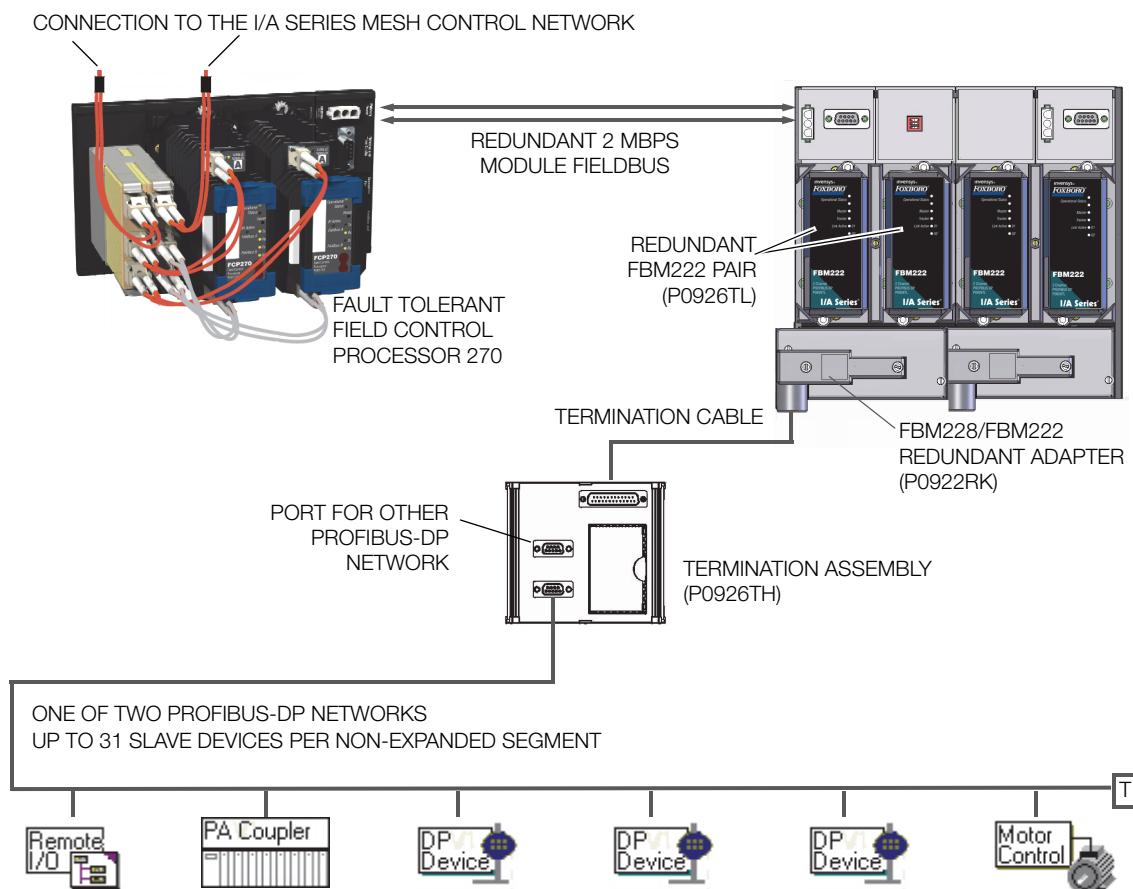
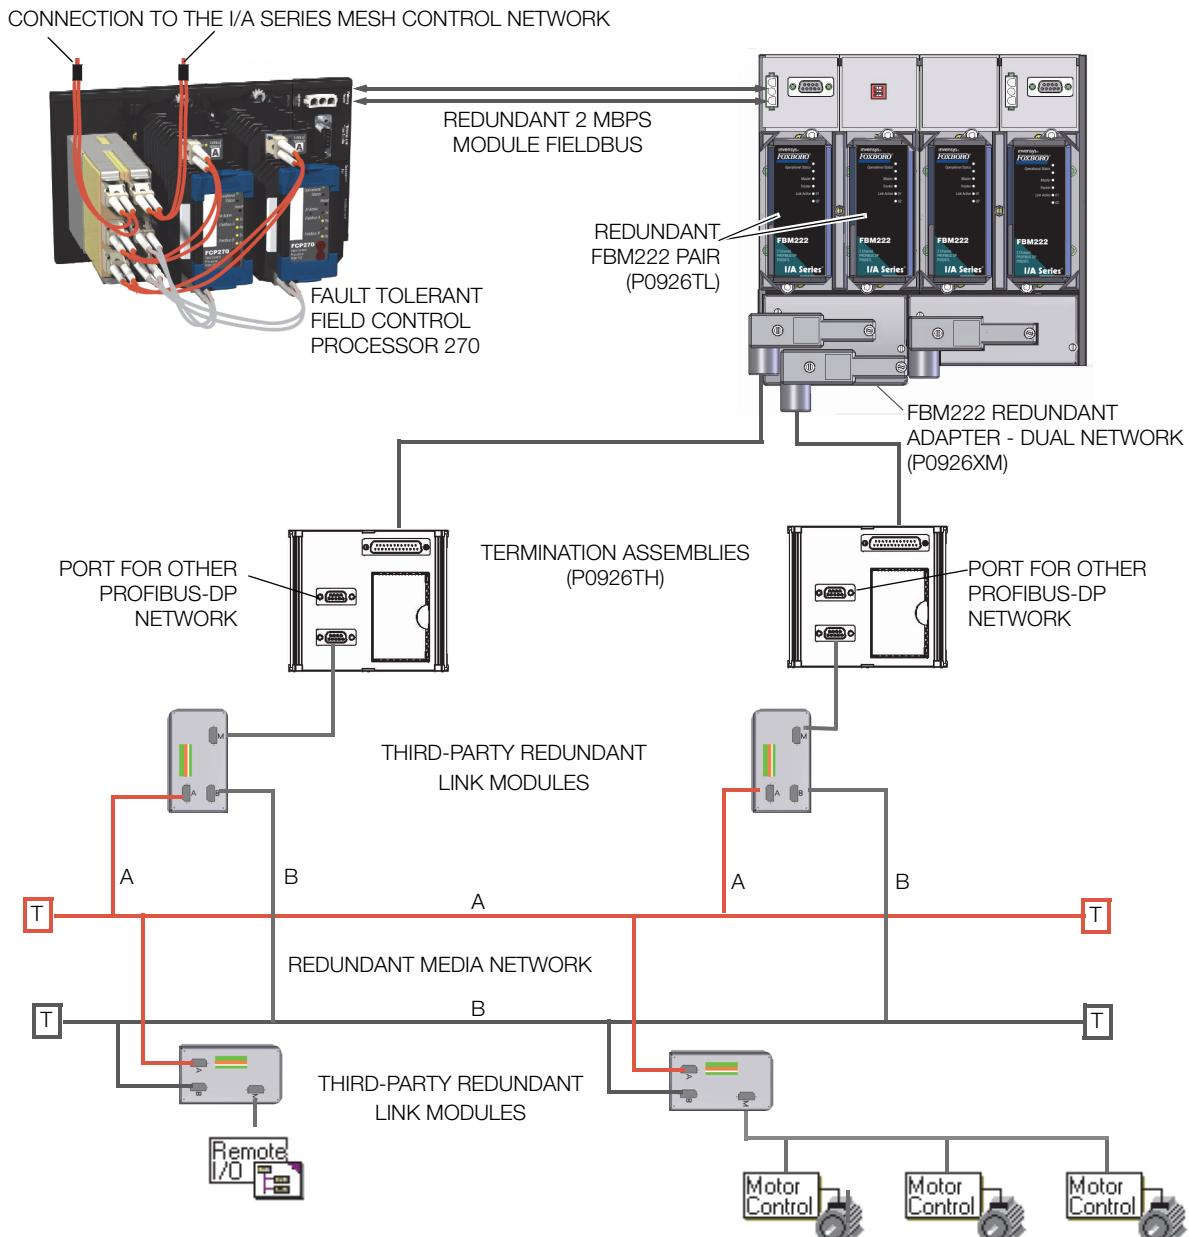

Figure 1. Redundant FBM222 with Single PROFIBUS-DP Network
Figure 2. Redundant FBM222s with Redundant Media PROFIBUS-DP Network
There are multiple ways to connect FBM222s installed as a redundant pair to a PROFIBUS-DP network. When the PROFIBUS segments are single networks as shown in Figure 1, an FBM228/FBM222 Redundant Adapter (P0922RK) connects a single termination cable to the redundant pair. The other end of the cable is plugged into a termination assembly (TA), which provides connections for the two network segments (Figure 1).
network by third-party redundant link modules, such as the ABB™ Redundant Link Module (RLM01) or the Siemens™ Optical Link Module (OLM) (Figure 2).
The FBM222 provides the interface to PROFIBUS devices for either the DIN rail mounted FCP270 Field Control Processor or the rack mounted ZCP270 Z-Form Control Processor. When deployed for use with an FCP270 (as shown in Figure 1 and Figure 2), the module is installed in the same baseplate or in an adjacent baseplate, and communicates with the control station over a 2 Mbps Fieldbus. The FCP270, in turn, is connected over a 100 Mbps switched
With the optionally redundant FBM222, a highly available system can be configured, as shown in Figure 2 and including:
In addition to the four-position baseplate shown in Figure 1 and Figure 2, the module can be mounted